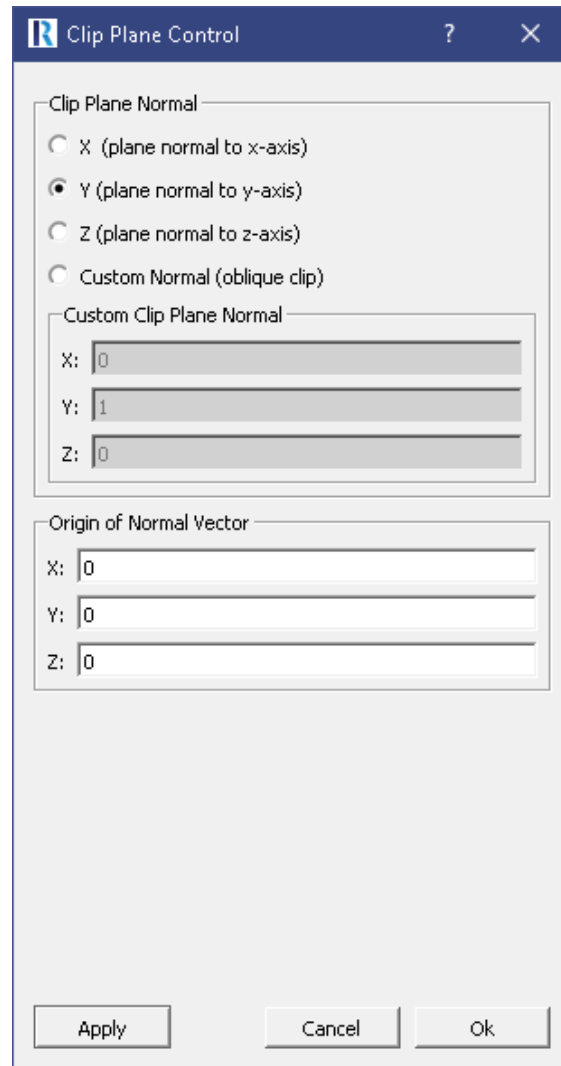

Fig. 2.23: Settings of the cut plane.
- Choose settings shown in Fig. 2.23: